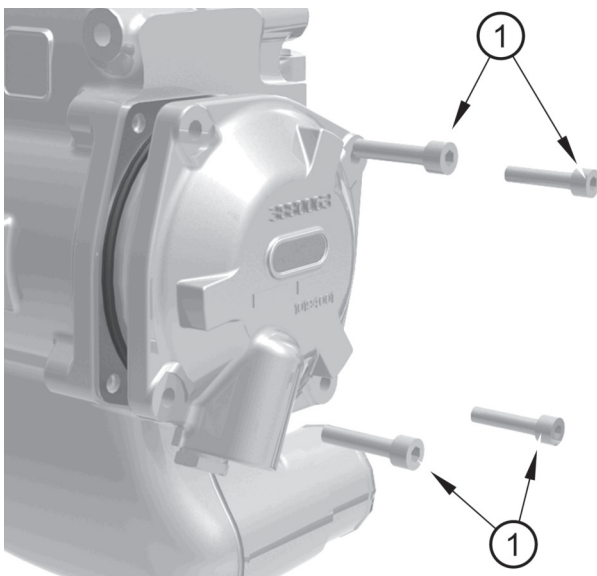

Figure 20
7. Remove the endcap by undoing the bolts (figure 20 item 1).